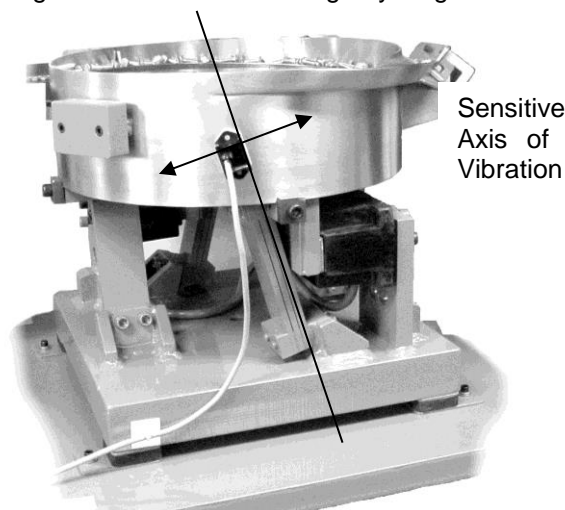

Fig. 2 The arrow shows the direction of vibration which is at a right angle to the spring pack.
**A. ORIENT THE SENSOR** so that its sensitive axis is in the same direction as the vibration of the feeder. The double-ended arrow in figure 1 shows the sensor's sensitive axis. Align the sensitive axis of the sensor in the same direction as the vibration (see figure 2). The sensor must be oriented correctly for proper operation.
Use a cable tie and an adhesive-backed mount to attach the sensor cable to the side of the drive base. See Figure 2. Clean the mounting area before applying the adhesive-backed mount.